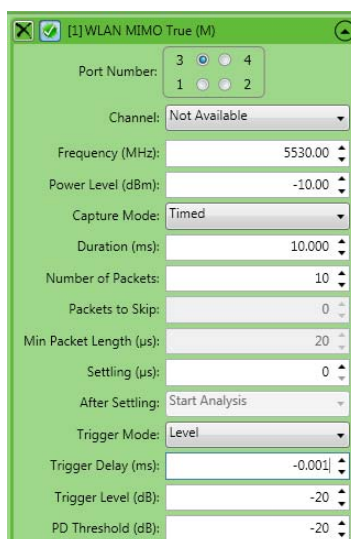

Figure 5-4. “M” Segment Settings
4. Expand the “M” segment settings by clicking the arrow in its title bar - Figure 5-4.